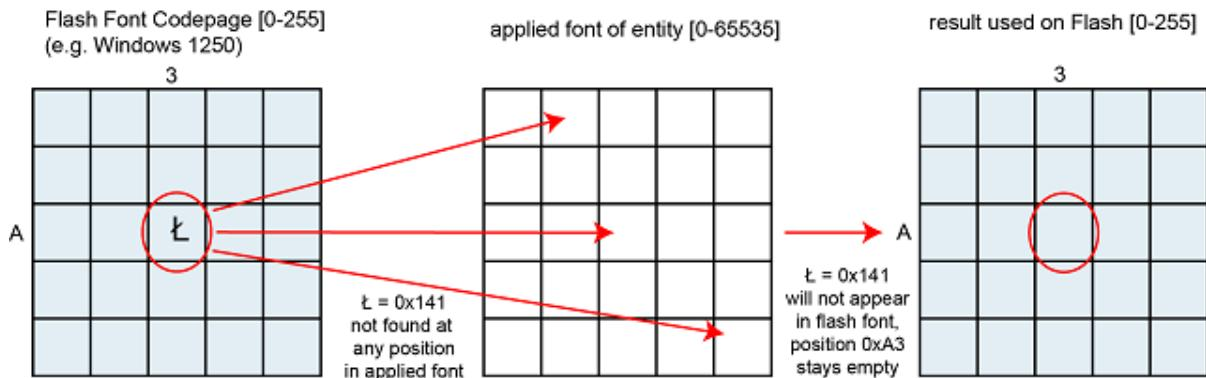

Figure 69: Example for not mapping Unicode character 0x141 from Windows-1250 Flash Font Codepage
- If a Unicode number of the Flash Font Codepage is not found in the applied font of the entity, the corresponding ASCII position stays empty in the resulting font on flash (see example in figure 69: ASCII position 0xA3 in the Flash Font Codepage (Windows-1250) is occupied by Unicode character 0x141 (L) which is not present in the applied font. Thus, ASCII position 0xA3 stays empty in flash.).